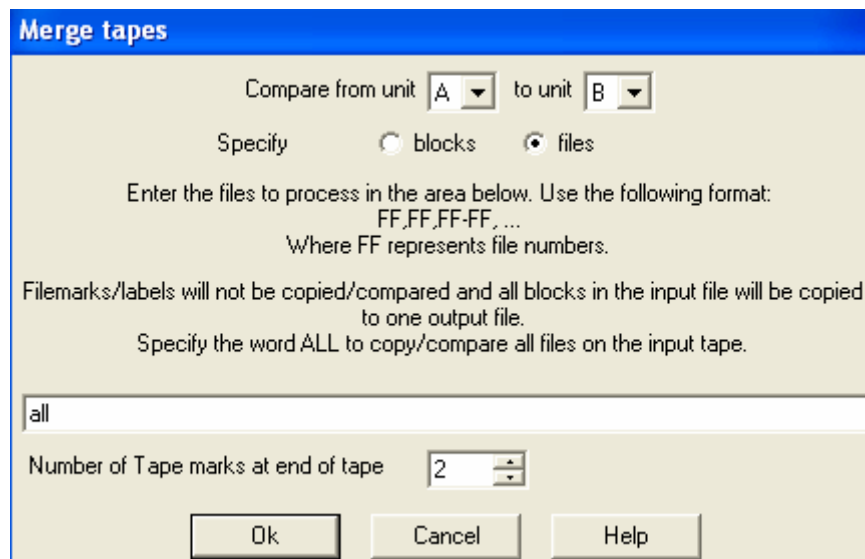

Figure 95: Tape Merge Compare Dialog Box
10. Compare Blocks/Files: To compare a range of records/blocks or files from an input unit another input unit, press the button labeled Compare. This unit will be the primary input unit. APS will present the merge block copy/compare dialog box to prompt for the starting and ending positions and then begin comparing the data. The dialog box is shown in Figure 95: Tape Merge Compare Dialog Box.